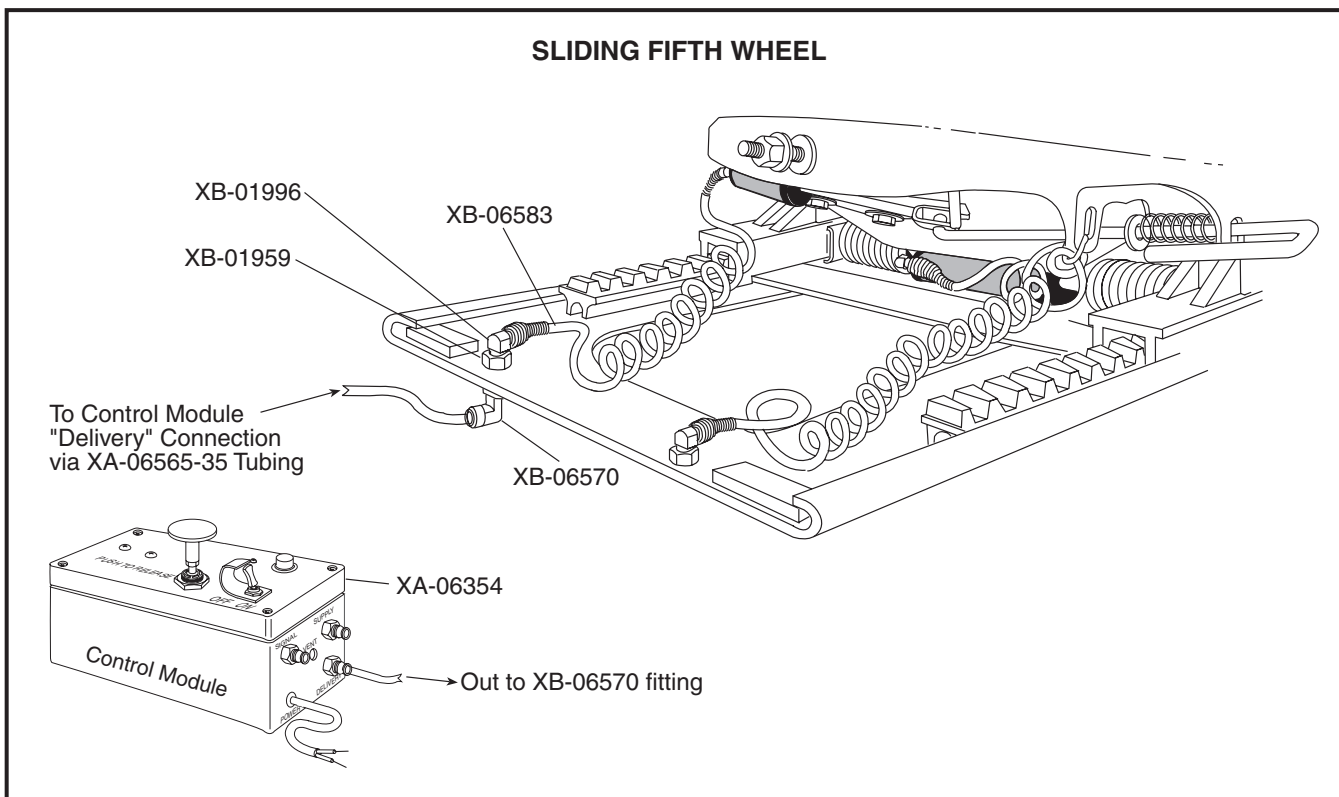

FIGURE 1
1. Attach bulkhead fitting (XB-01959) through the open hole in the slide plate assembly (see figure 1).